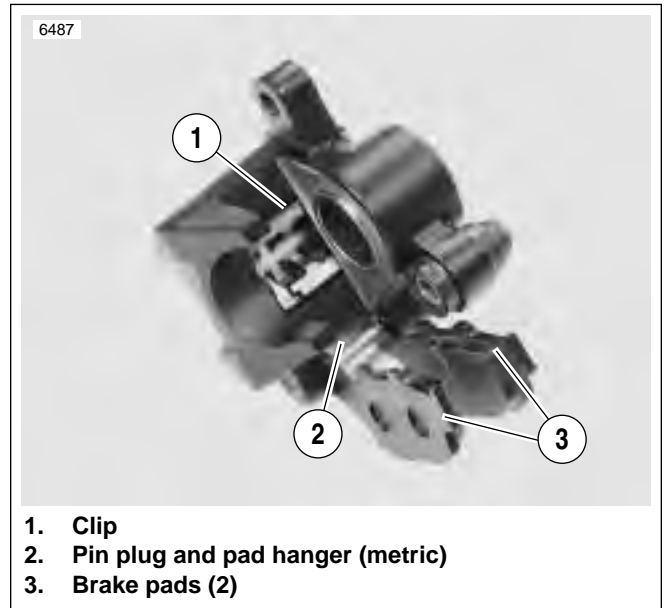

Figure 2-58. Brake Pads
1. See Figure 2-58. Place clip (1) inside caliper body as shown.
3. See Figure 2-58. Install brake pads (3) using pad hanger and pin plug (2).